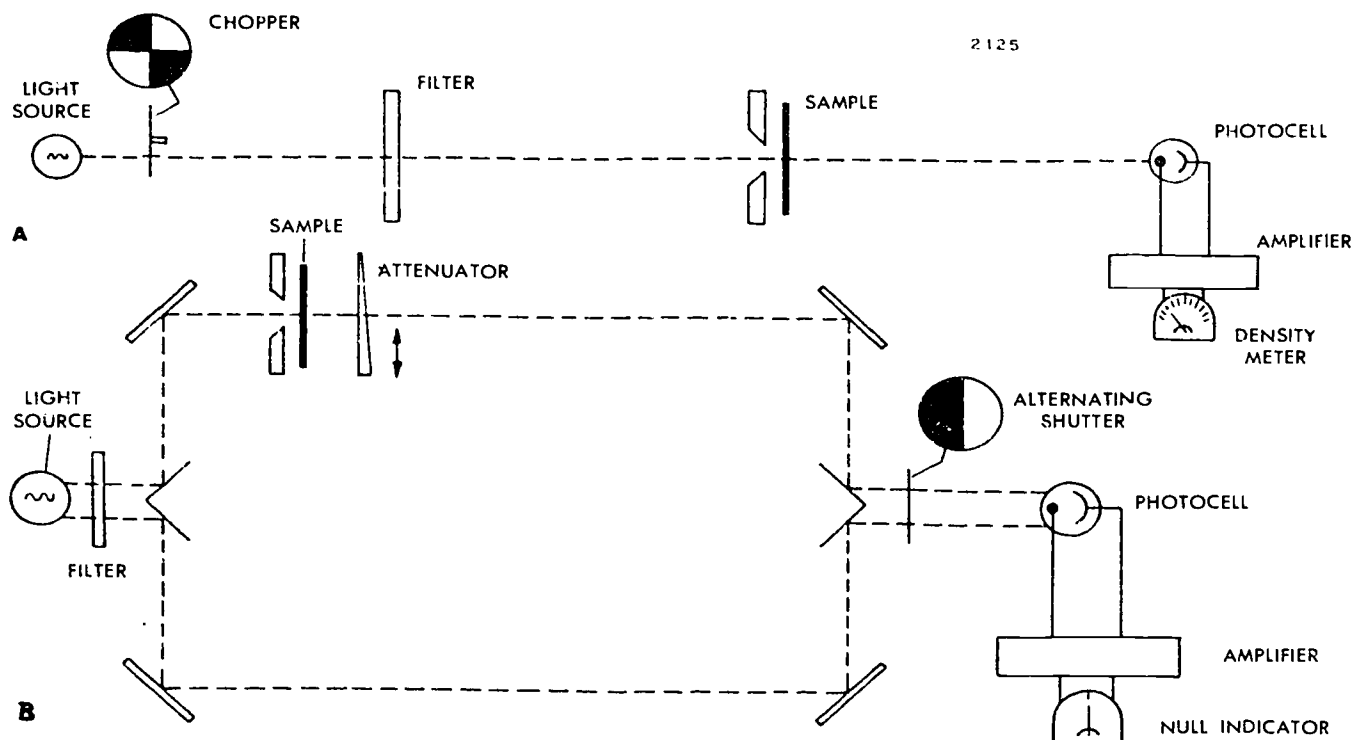

Figure 4-7. Schematics of direct reading and null-type integral densitometers.
Integral Densitometers. Integral color densitometers may be either direct-reading or null-type instruments. Individual differences between the two kinds of instruments are illustrated in figure 4-7. A direct-reading densitometer is usually calibrated by measuring the output radiation with no sample in place. Under these conditions, the density reading is adjusted to zero, and all density readings following are made against that reference. The chopper in figure 4-7,A is not always included in direct-reading densitometers; but when it is included, an alternating signal is produced by interrupting the measuring beam. The signal is amplified and rectified to produce a DC signal that is proportional to transmittance. By applying this signal to a logarithmic meter, a deflection of the needle that is proportional to density is obtained.
splitter, as shown in figure 4-7,B. Note that one half of the light passes through the sample, and the second half takes another path to reach the receptor. The attenuator may be in the same beam with the sample, as seen in the figure, or it may be placed in the other beam. In the first instance, combined densities of the wedge and the sample are made to match the comparison beam. In the second case, the comparison beam is attenuated to match the sample. In either case, densities are read from a scale connected to the attenuator.
1. Refer to figure 4-7. What are the individual differences between the two kinds of instruments?